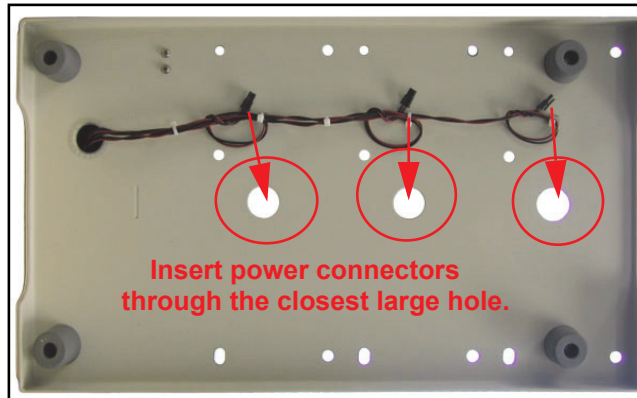

Figure 5: Under the Sievers Autosampler - Stirring Plate Wiring
2. Locate the power connector underneath the Sievers Autosampler base for each stirring plate to install (Figure 5).